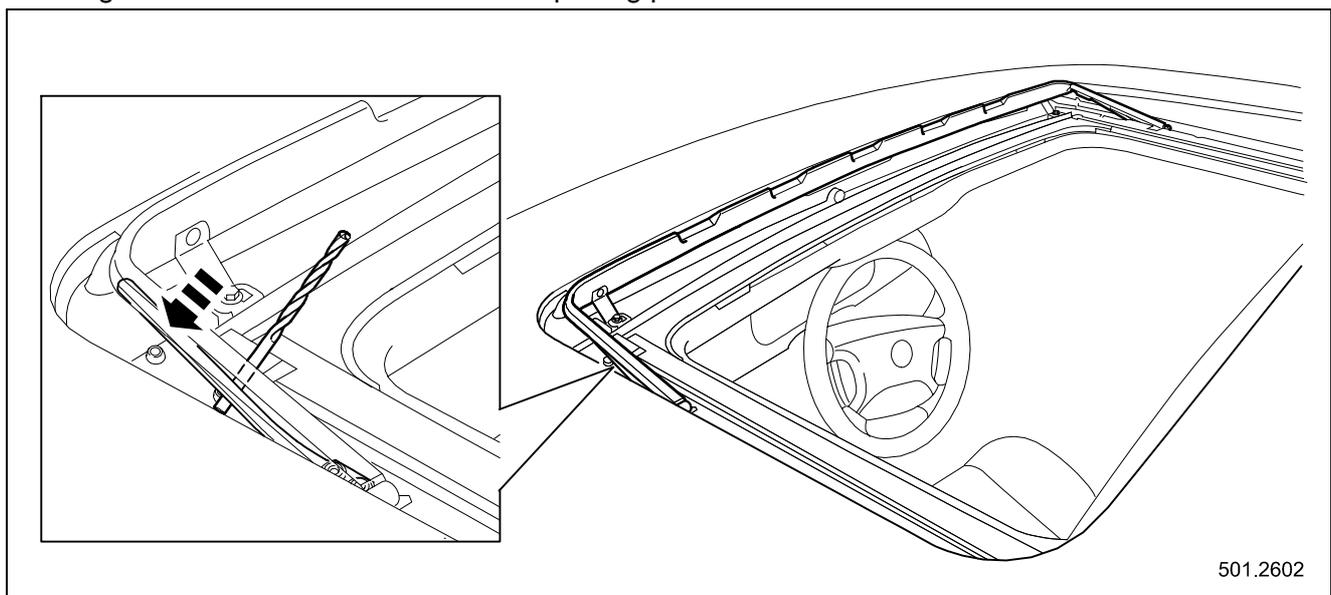

Fig. 1
- 5 Position shank of a 4.0mm twist drill under base of the spring by the rivet head, and push the deflector down over the drill until it bottoms out to re-profile the spring (see Fig. 1).